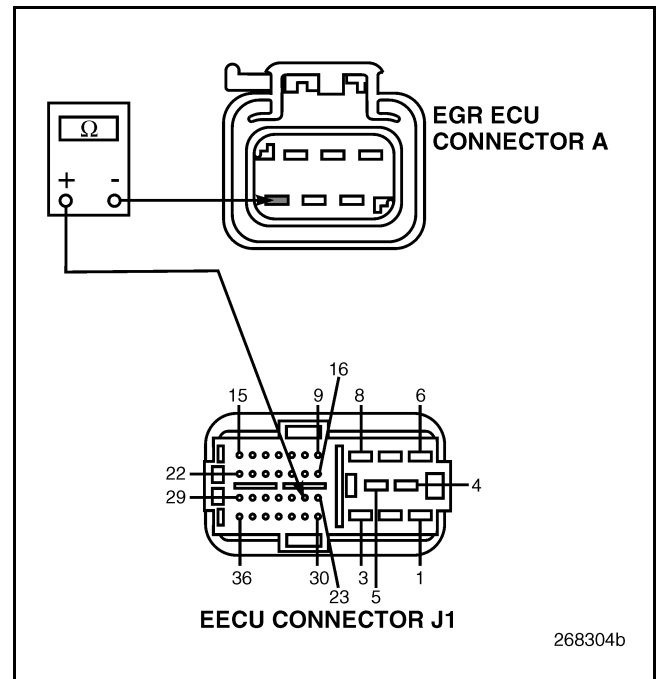

Figure 594
4. Measure the resistance between EECU connector J1 pin 24 and EGR ECU connector A pin 6 (see Figure 594).